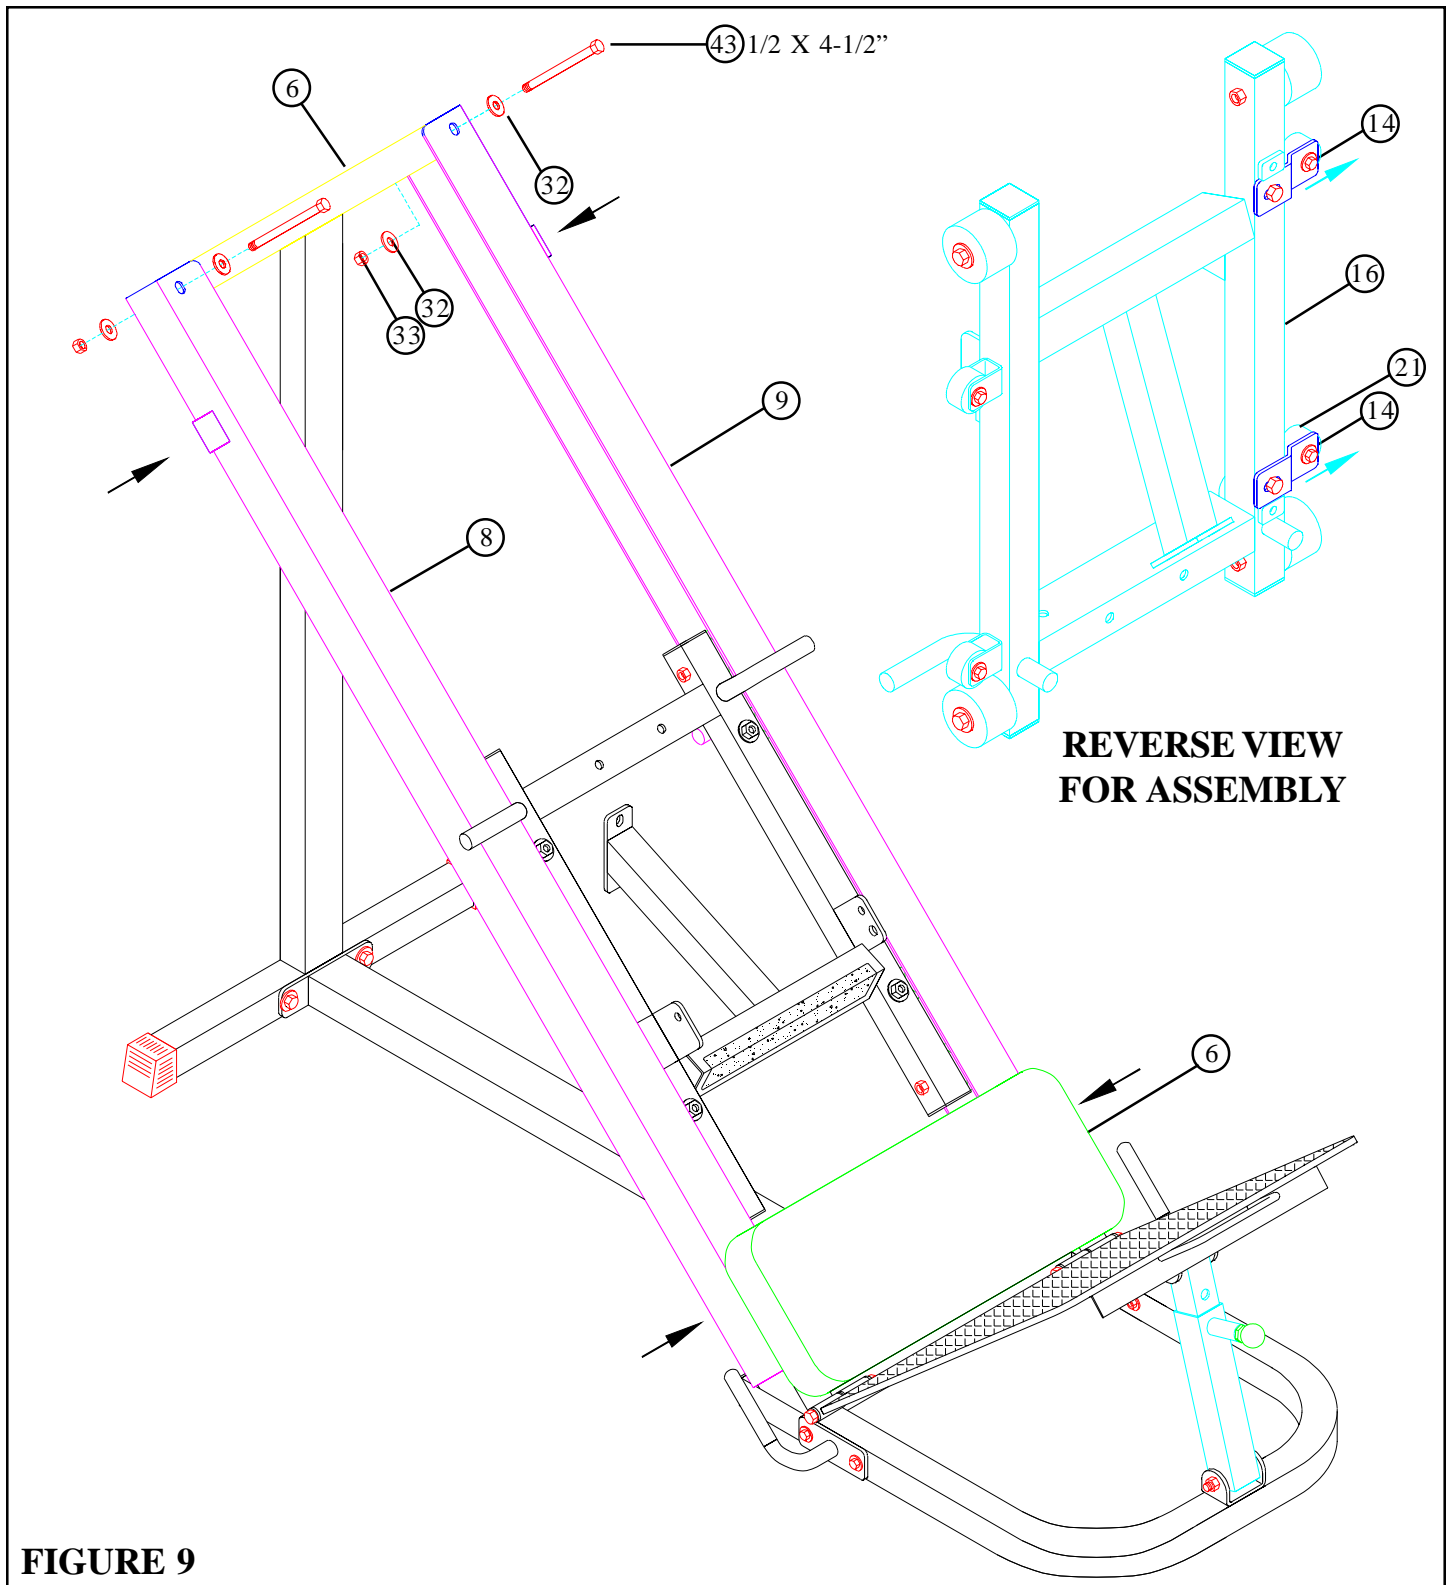

FIGURE 9
- **SECURELY** reassemble the LEFT (8) and RIGHT (9) RAILS to the REAR UPRIGHT (6) as shown in FIGURE 9 using the two 1/2 X 4-1/2" BOLTS (43), four 1/2" WASHERS (32), and two 1/2" LOCK NUTS (33). **(!!! IMPORTANT !!! BEFORE TIGHTENING MOVE THE RAILS IN AS FAR AS POSSIBLE)**
- **SECURELY** tighten the two 3/8 X 4-1/2" BOLTS (38) holding the SEAT PAD (18) from STEP 5. **(!!! IMPORTANT !!! BEFORE TIGHTENING MOVE THE RAILS IN AS FAR AS POSSIBLE)**
- To adjust the side to side movement of the CARRIAGE (16), start by sliding the CARRIAGE (16) as far to the left as possible inside the RAILS (8 & 9). Adjust the ADJ. WHEEL BRACKETS (14) out until the 2" DIA. WHEELS (21) contact the RIGHT RAIL (9). **SECURELY** tighten bolt connection. See FIGURE 9 and REVERSE CARRIAGE VIEW.